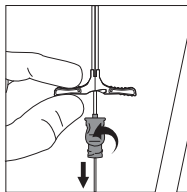

Figure 5
24. Holding sheath in place, remove guidewire and dilator as a unit (refer to Figure 5).